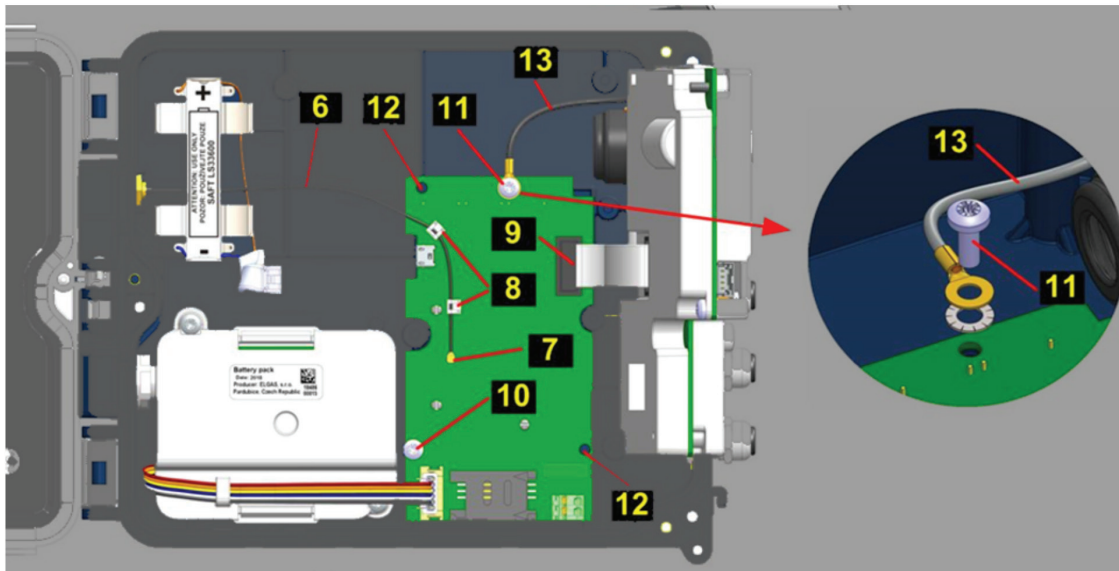

Fig. 43 Installing the modem
5. Installing the internal modem module (Fig. 43)